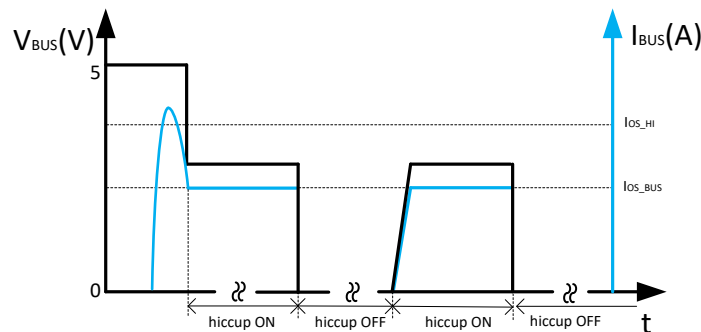

Figure 10-7. BUS Overcurrent Protection: Two-Level Current Limit
- The third condition is the load current increases just over the I_{OS_HI} setting. In this case, the load current does not trigger the fast turnoff. The USB power switch current limit threshold is set back to the primary current limit, I_{OS_BUS} , immediately. If the load still demands a current greater than I_{OS_BUS} , the USB output voltage decreases to $I_{OS_BUS} \times R_{LOAD}$ for a resistive load, which is shown in Figure 10-7. If the overcurrent limit condition lasts longer than 4.1 ms, the corresponding USB channel enters hiccup mode with 524 ms of off-time and 4.1 ms of on-time. Another USB channel still works normally.